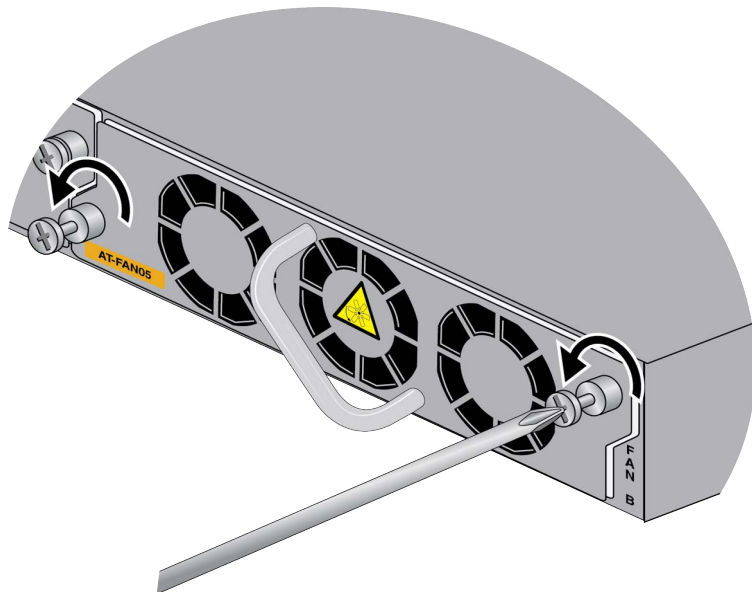

Figure 154. Loosening the Screws on the Fan Module
1. Use a #2 Phillips-head screwdriver to loosen the two screws on the faceplate of the fan module. Refer to Figure 154.